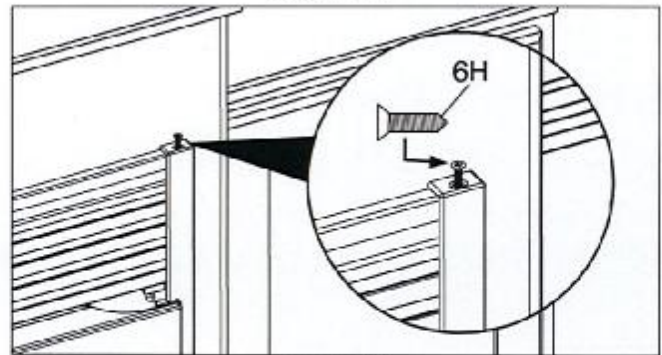

Figure 18.
- Fasten screws to top trim. (See Figure 18)